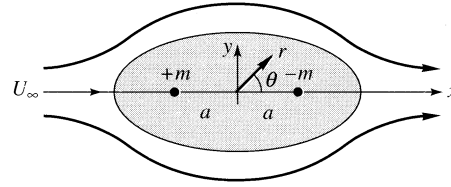

Fig. P8.95
**8.95** Show that the axisymmetric potential flow formed by a point source  $+m$  at  $(-a, 0)$ , a point sink  $(-m)$  at  $(+a, 0)$ , and a stream  $U$  in the  $x$  direction becomes a Rankine body of revolution as in Fig. P8.95. Find analytic expressions for the length  $2L$  and diameter  $2R$  of the body.